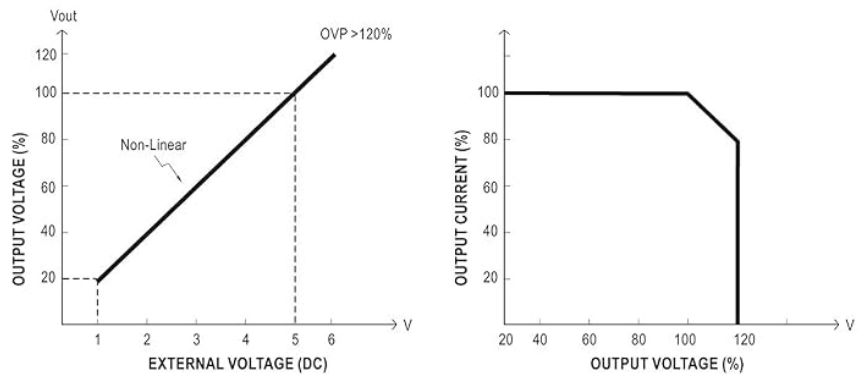

Fig. 3.2 Output voltage trimming
- (3) Adjustment of output voltage is possible between 20~110%(Typ.) of the rated output which is shown in Fig. 3.2. Reducing output current is required when the output voltage is trimmed up.